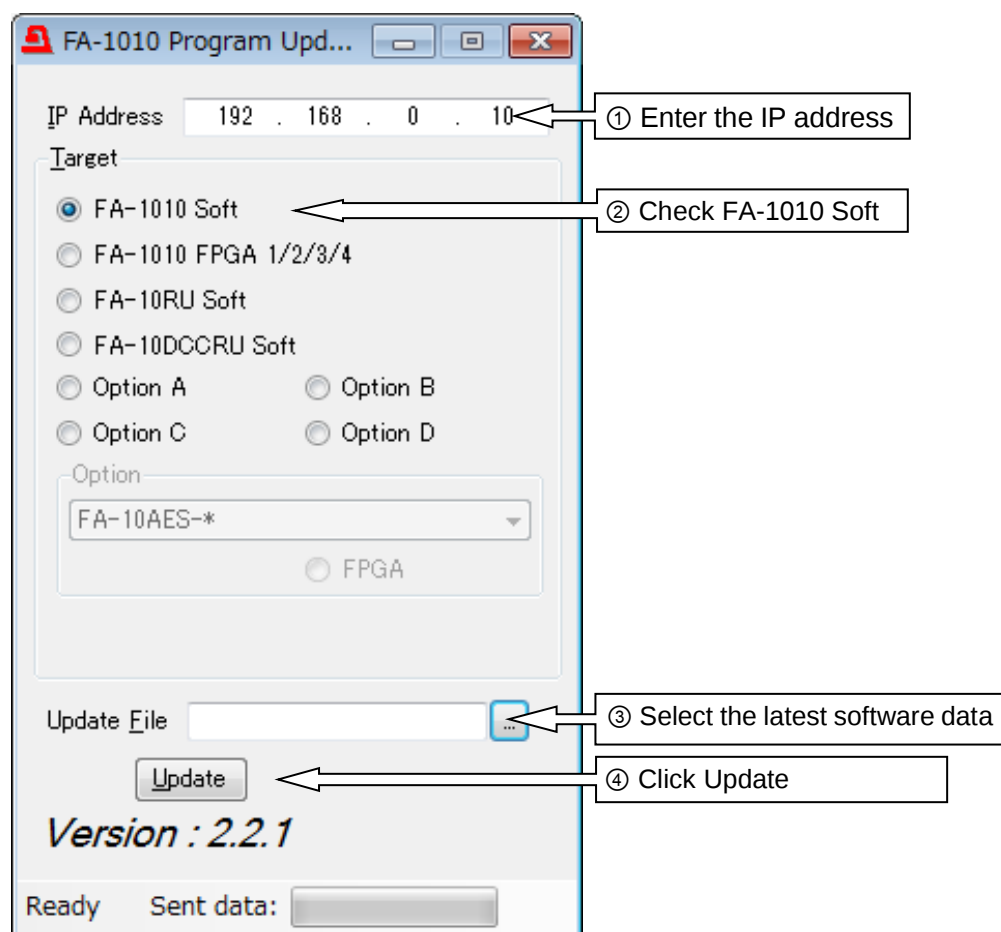

Fig. 13 FA-1010 Program Updater dialog
3. Enter the IP address (default IP address: 192.168.0.10)(Fig. 13 ①).
4. Check **[FA-1010 Soft]** under **[Target]** (Fig. 13 ②).
5. Select the latest version software under **[Update File]** (Fig. 13 ③).
6. Click **[Update]** to start updating. (Fig. 13 ④).